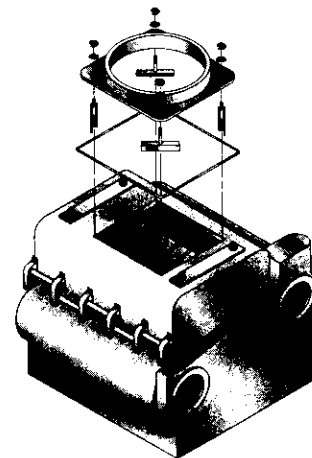

Figure 17: Top Flue Collar Attachment
- b) Secure the plate and compress using the 3/8" tie down assembly, nuts and washers provided. See Figure 17.